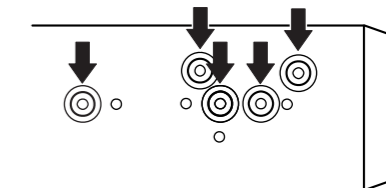

Fig. 12
**2. Fastening the unit to the factory radio mounting bracket. (Fig. 12) (Fig. 13)**